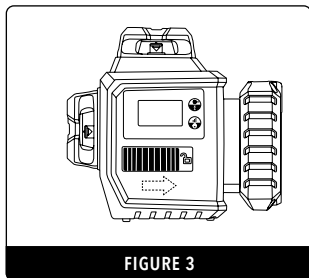
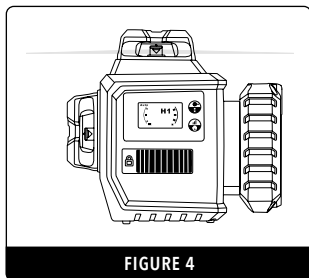

FIGURE 3
FIGURE 4
- To power on the laser level, slide the **locking switch** from the locked position to the unlocked position (Fig.3). The laser level will power on and the horizontal laser beam will activate (Fig.4).